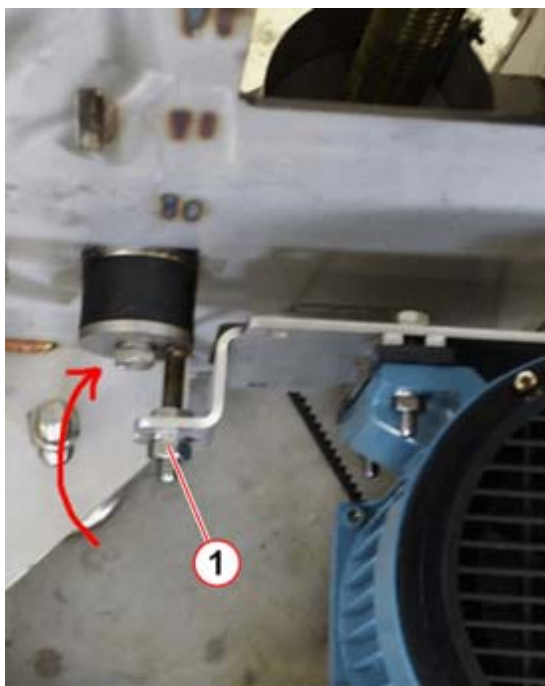

Fig. 15: Belt
- Use the lock nut (1/Fig. 15 / p. 22) to loosen the belt on the vertical motor mount.
- Loosen the lock nut (1/Fig. 15 / p. 22) in order to remove the belt.
- Insert the toothed belt (1/Fig. 15 / p. 22) and turn the nut on the vertical motor to tighten the belt.